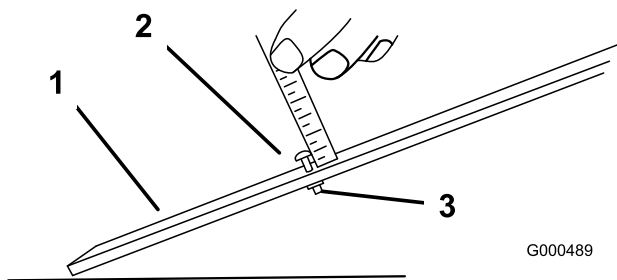

Figure 55
2. Loosen nut on gauge bar (Figure 55) and set adjusting screw to desired height-of-cut. Distance between bottom of screw head and face of bar is height-of-cut.